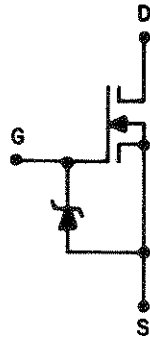

Figure 4-21. VN10KM MOSFET With Gate-to-Source Protection Diode
**INTRODUCTION.** Some MOSFET devices have an input protection diode, and the tracker displays the effect of this diode. Figure 4-21 shows a Siliconix N-channel enhancement mode MOSFET (VN10KM). This device has a protection diode between the gate and source, and the substrate is internally connected to the source.